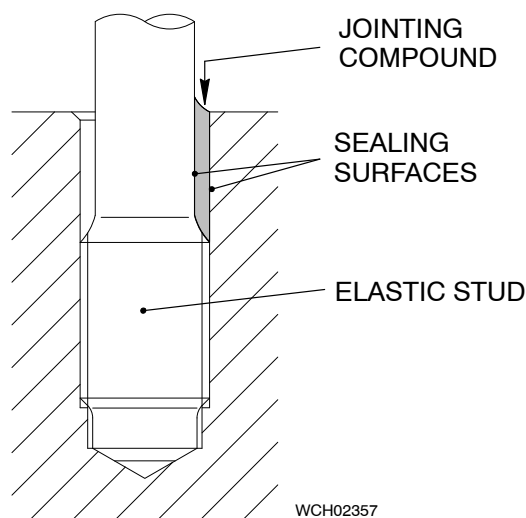

Fig. 3
- 9) For the elastic studs installed in the valve cage, cylinder liner and cylinder jacket fill the area around the elastic stud with jointing compound (see Fig. 3).